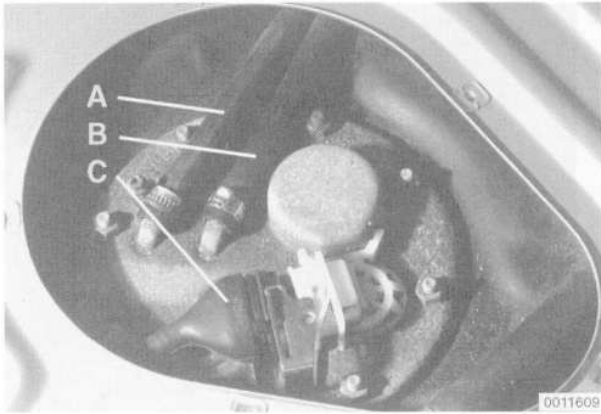

Fig. 2. Fuel pump/fuel level sender assembly in top of fuel tank. Disconnect supply hose (A), return hose (B) and harness connector (C).
4. Label and then remove the two hoses and the harness connector from the fuel pump/level sender assembly. See Fig. 2.